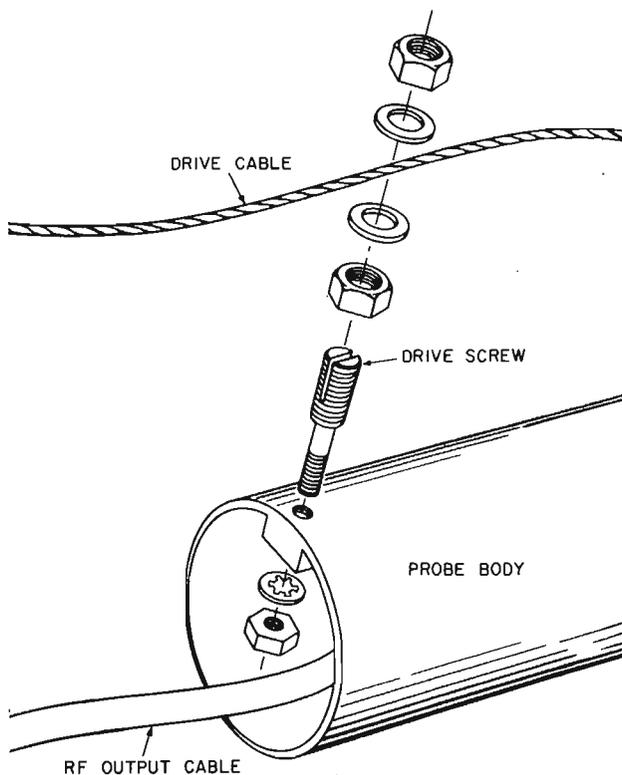

Figure 4-6b. Rear View Showing Attaching Parts
- b. Refer to Figure 4-6b. Remove the nut and washer that hold the drive cable in the probe drive screw in the top of the attenuator probe. Lift the cable out of the screw slot.